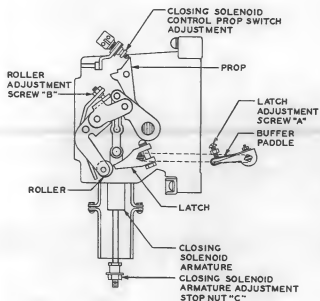

Fig. 5 - Adjustments — Breaker in Open Position
***#2.08 Latch Adjustment:** See Fig. 5.
***#3.08 Latch Adjustment:** See Fig. 5 — (Reqt 2.08)